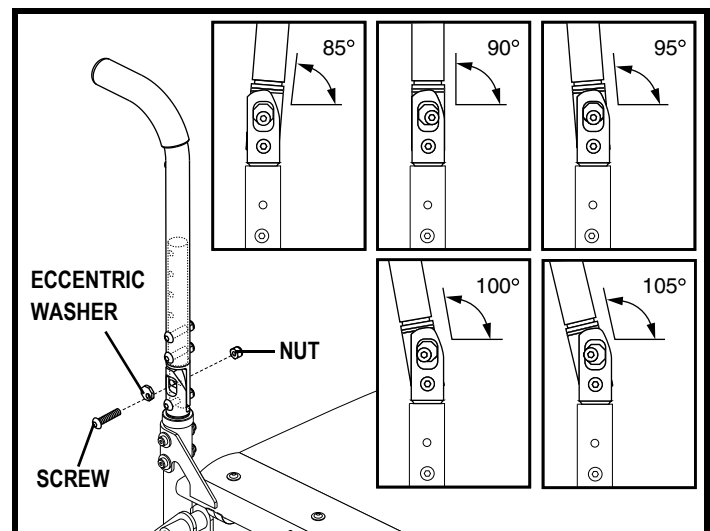

Figure 27. Seatback Angle Adjustment
Your wheelchair may be equipped with angle adjustable back canes that allow you to adjust the seatback to one of five different angles. The angle adjustment range is 85°-105° in 5° increments. See figure 27.
2. Rotate the eccentric washer to the appropriate position that represents the desired angle. See figure 27.